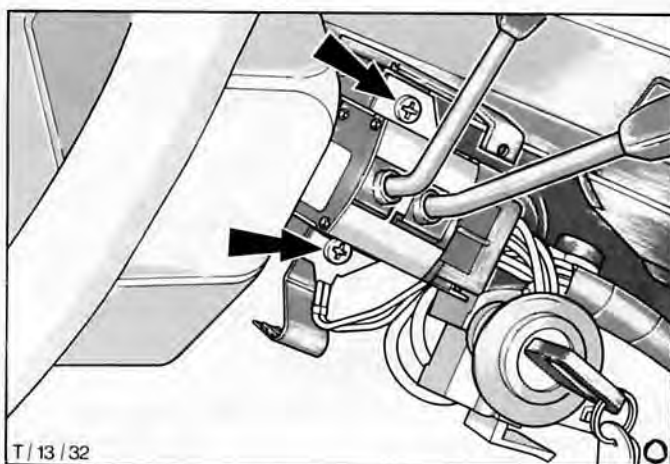

Fig.16. Reconnect multi- function switches to steering column.
25. Refit multi switches and bracket to steering column and secure with two screws, Fig.16.